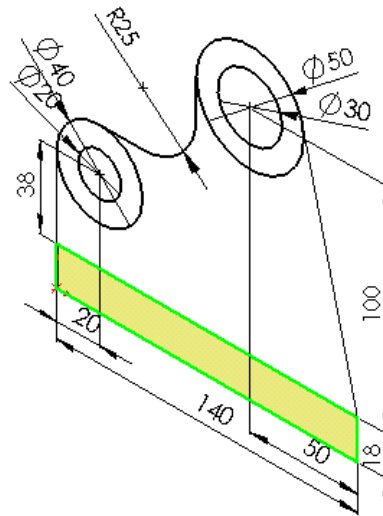

Figure 5-81 Lower rectangle selected as contour
- Extrude the selected contours, refer to Figures 5-81 through 5-82.
5. Using the contour selection cursor select the area enclosed by the lower rectangle as shown in Figure 5-81.